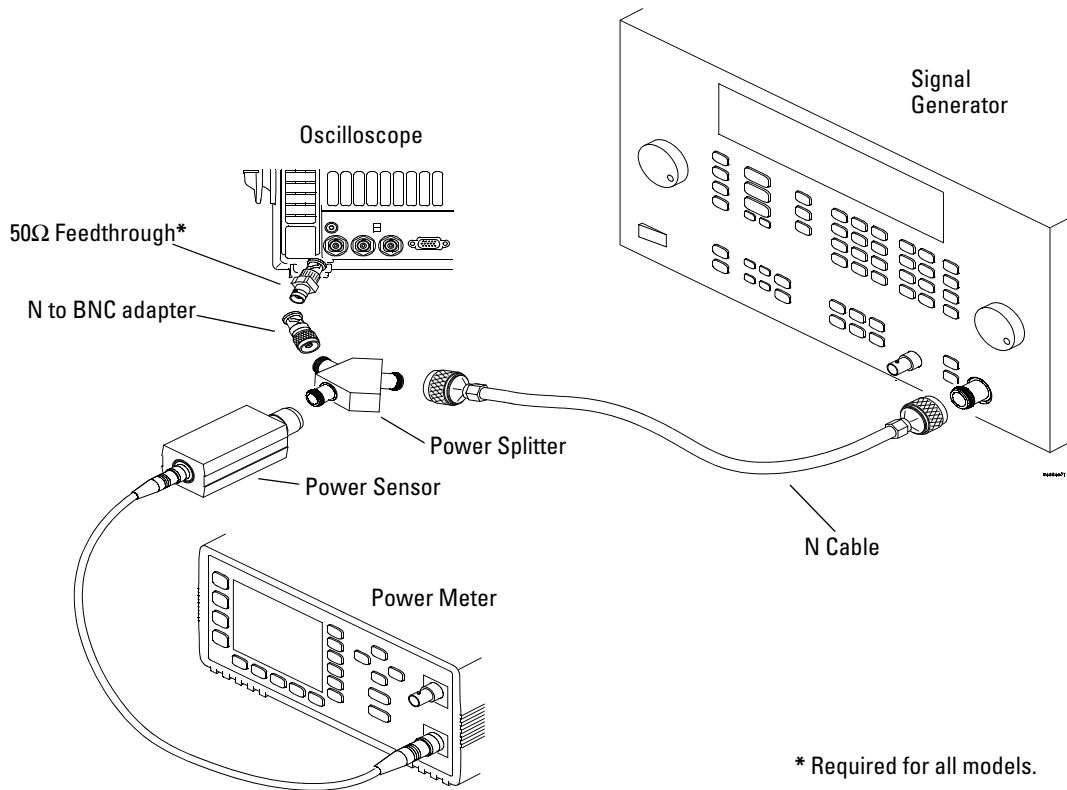

Figure 6 Connect equipment for external trigger sensitivity test (4-channel models)
- 1 Connect the equipment (see Figure 6).